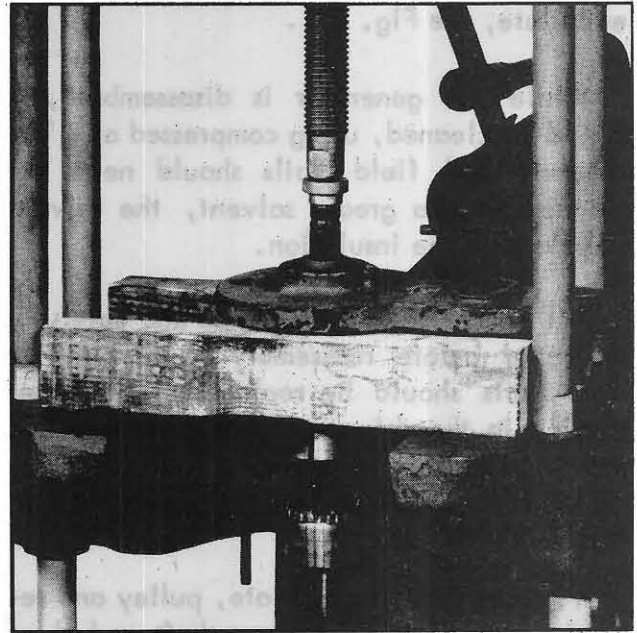

Fig. 205
4. Press the armature shaft out of the drive end plate as shown in Fig. 205 and remove the through bolts.